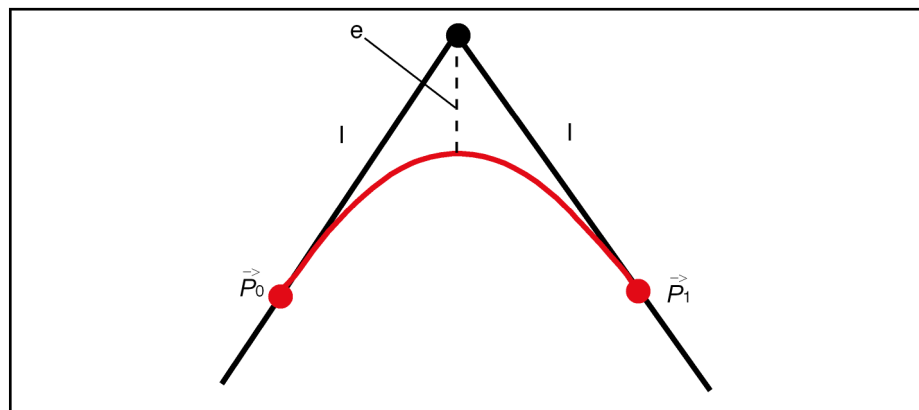

Fig. 12-7: Corner rounding when a maximum tolerance is specified
- A maximum deviation "e" of the spline contour from the corner can be specified (see fig. 12-7 "Corner rounding when a maximum tolerance is specified" on page 432). The control now generates a symmetric spline which starts a distance "l" in front of the corner (on the pre-corner block) and ends after the same distance behind the corner (on the post-corner block). If one of the two corner contours is too short, the pre- and the post-corner distance is reduced to a common dimension l. l always remains smaller than or equal to the half of the shorter of the two corners contours, i.e. $l \leq \frac{1}{2} \min(S_1, S_2)$ with the path lengths S_1 and S_2 of the pre- and the post-corner block.